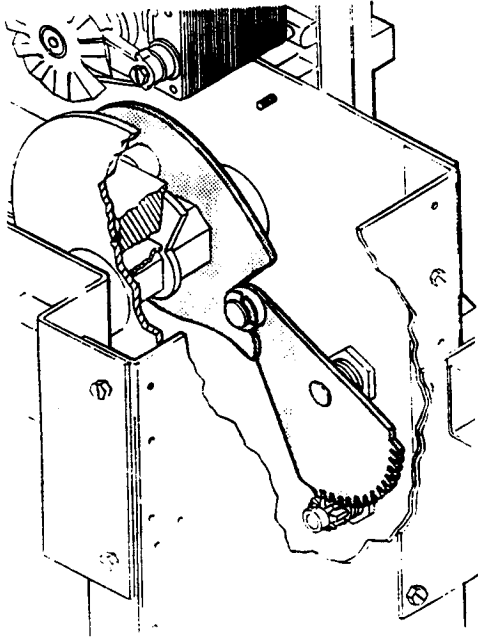

FIGURE 3.11
5. Confirm that the cam follower is in the deepest valley of the rear cam (See Figure 3.11) by cycling the brewer to this position. This position of the cam and follower guarantees that the brewer is in the dump position.